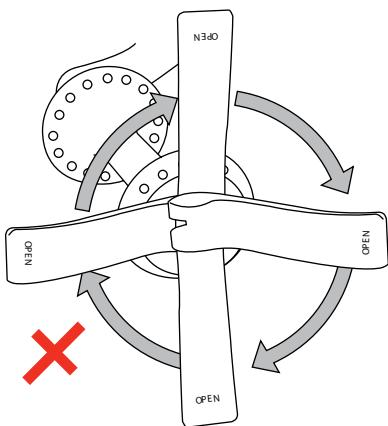

Figure 41. Do not turn the lever in a circle
- + Do not turn the lever in a circle to increase the quick-release tension (Figure 41); this will not correctly hold the wheel in its location.